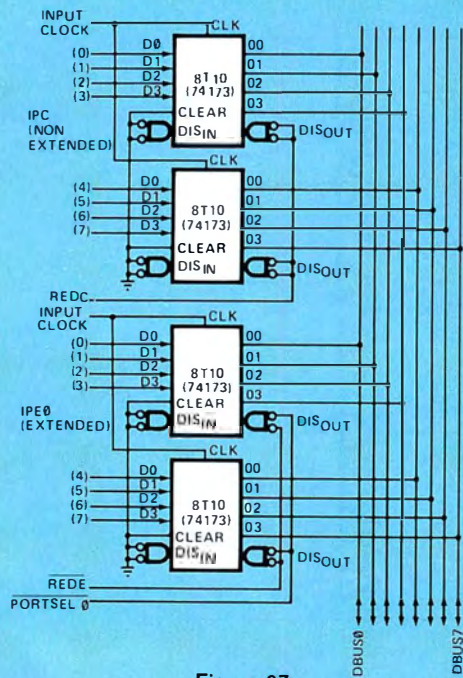

Figure 27
**LATCHING INPUT PORTS:** Latching input ports may be required to store data from an external device, which is available only momentarily, before the actual input operation to the microprocessor takes place. This type of input port can be realized by connecting TTL-latch or D-type flip-flop circuits, such as the 7475, 74100, or 74175, to the inputs of a gated input port. As illustrated in Figure 27, by using the Signetics 8T10 Quad D-type flip-flop with tri-state outputs, an 8-bit latching input port can be implemented with only two packages. The 8T10 is functionally identical to the 74173.